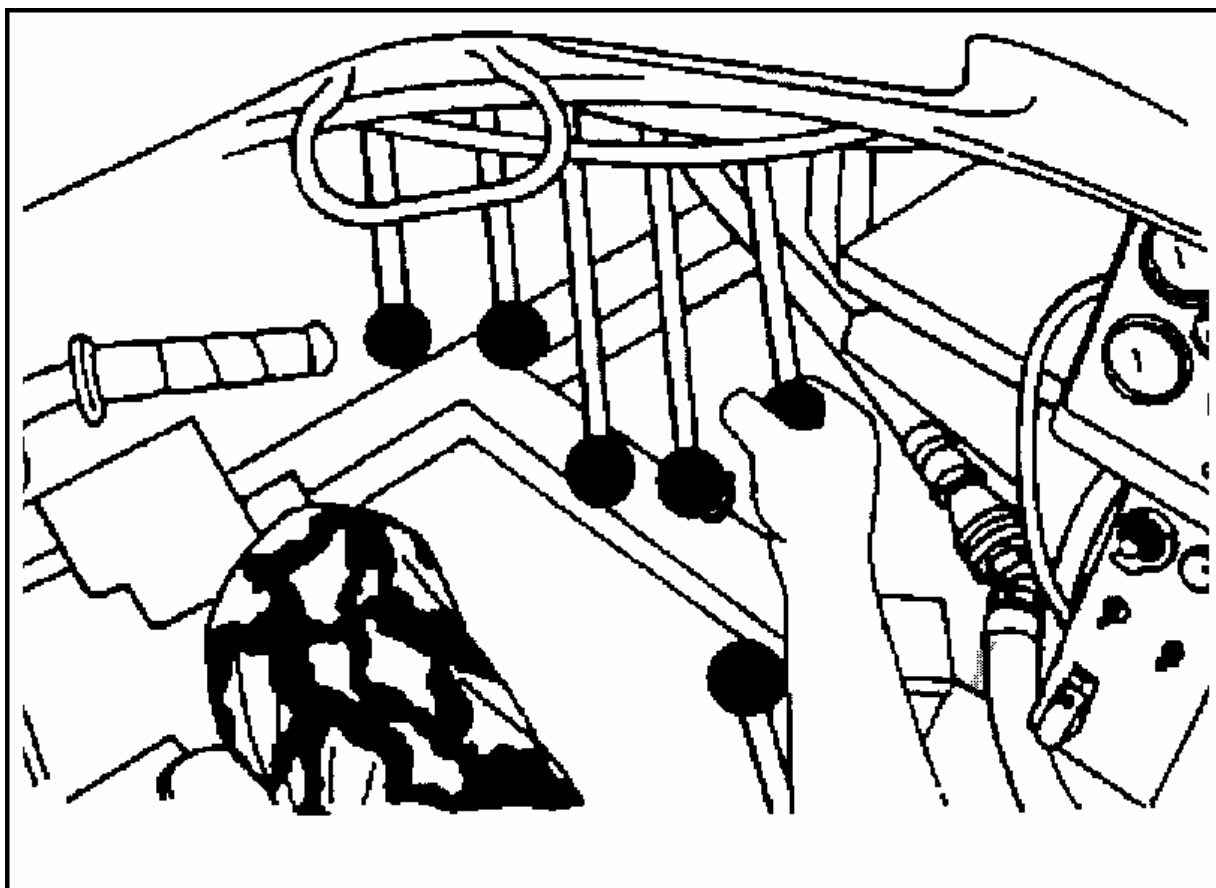

Figure 052-226-1049-2
- b. Pull up and hold the overhead-cylinder control lever (Figure 052-226-1049-2). This will activate the overhead cylinder to its full limit of travel and automatically release the bridge hold-down chains.